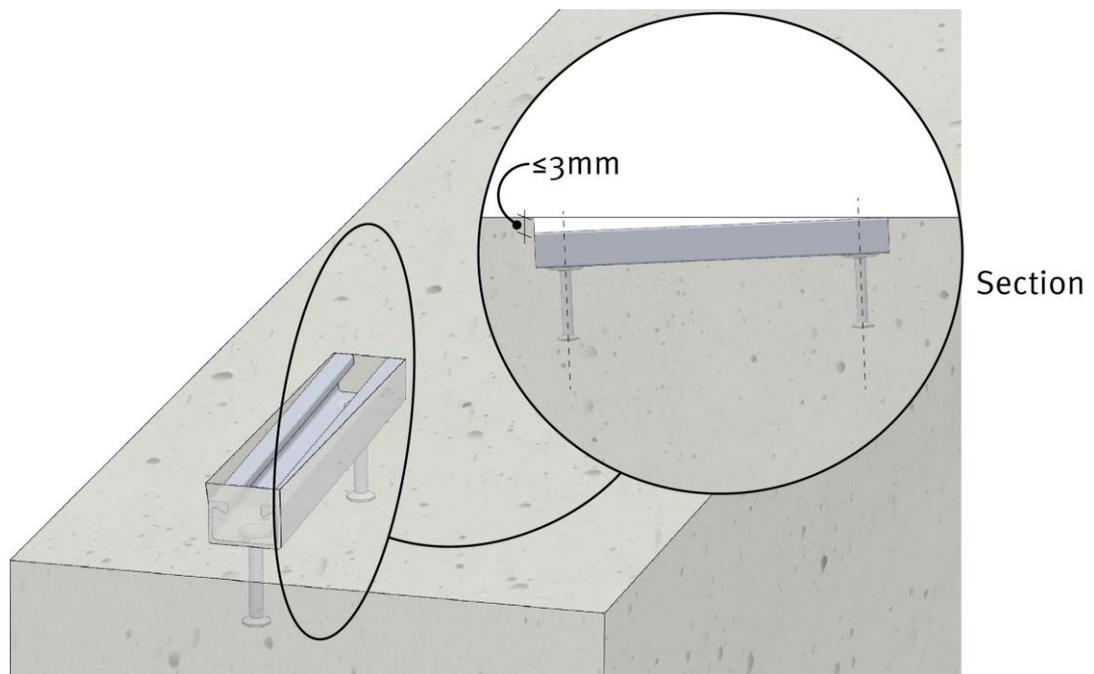

Figure 18
- a) If one end of the anchor channel has sunk below the concrete surface, shims can be used in accordance with case 2 (Figure 18).
- a) When one end of the channel has sunk below the surface of the concrete the maximum limit it can be out of alignment is 3mm from highest to lowest points on the channel (Figure 18).